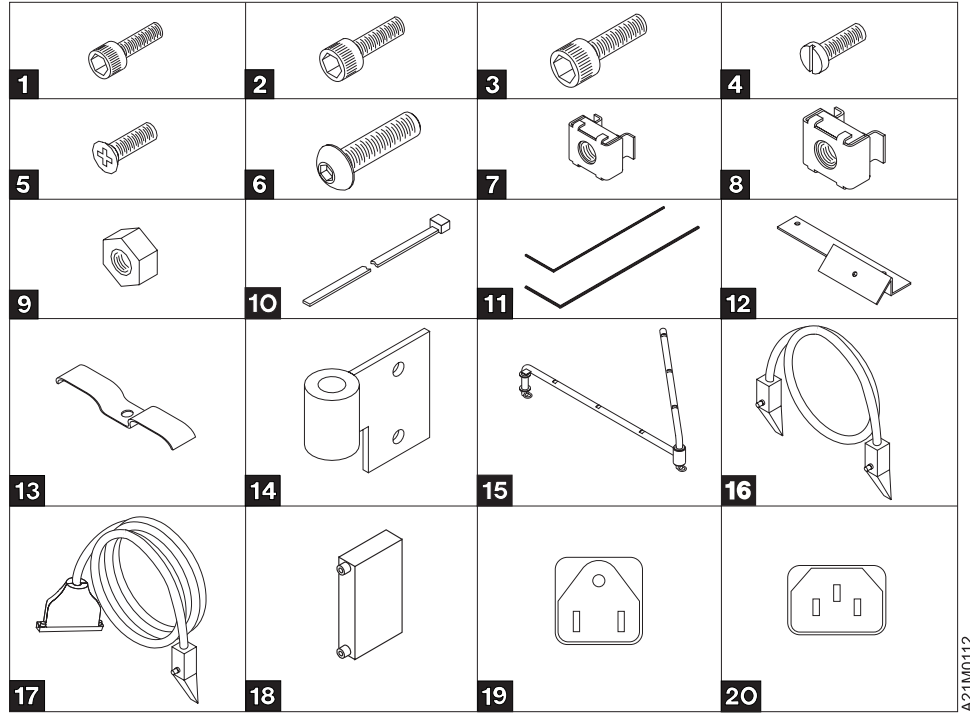
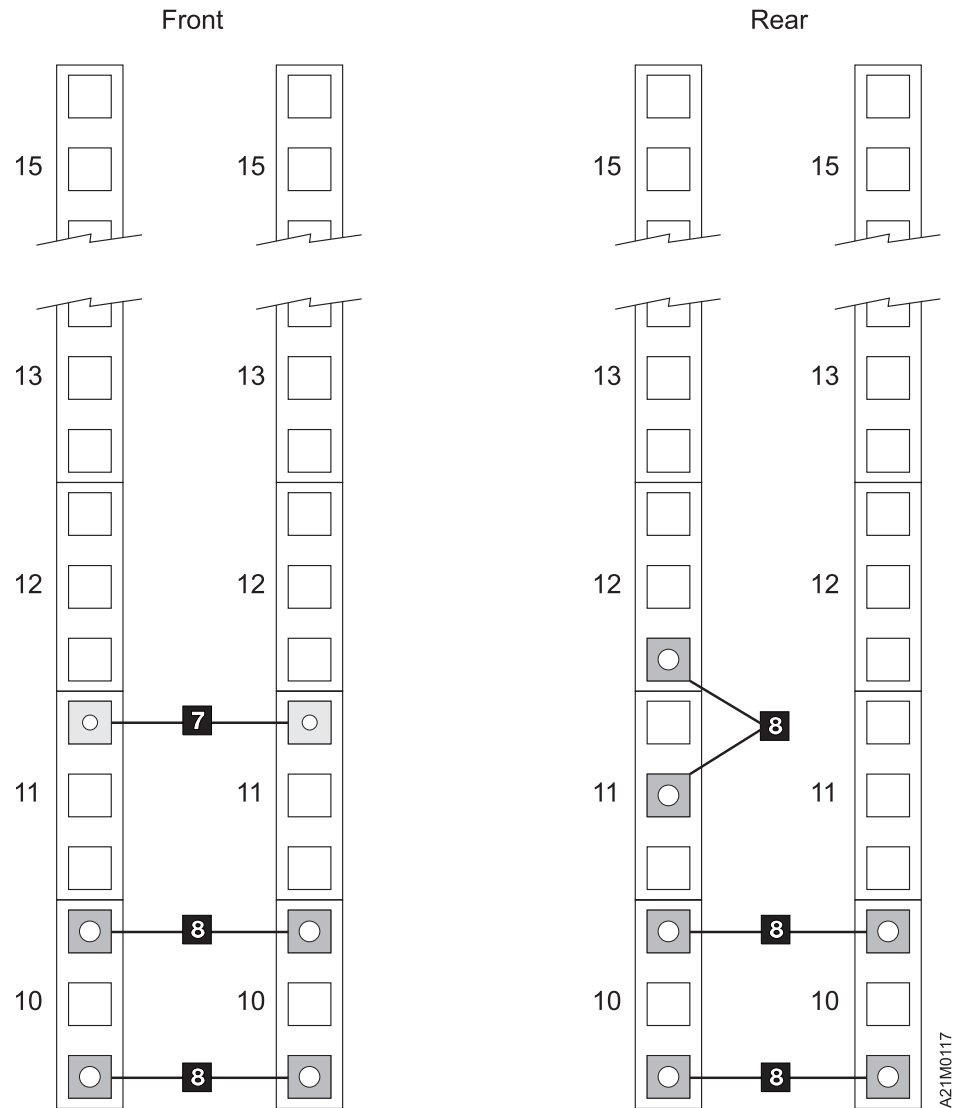

Figure 35. 3570 Drive Models B21 and B22 Rack-Mounted Hardware Ship Group Parts and Tool Diagram
Figure 36. EIA Specification
- \_\_\_ Step 1. Use Table 18, Figure 35 on page 71, and Table 19 on page 71 to inventory and identify the components in your 3570 shipment. Reference these lists to ensure you have all the necessary parts before you begin your installation, they are helpful references during the actual build phase of your 3570 library. (In the following installation pictures, block numbers **1** through **20** represent items in your hardware ship group. All other block numbers are referenced for description only.)
- a. When you are installing either Model B21 or Model B22 in a rack, you are instructed to locate components by Electronic Industry Association (EIA) rack unit and hole location. An EIA unit is composed of three holes. (See Figure 36 on page 73 for an example.) All hole locations are specified within contiguous EIA rack units, and are square shaped.
- \_\_\_ Step 3. Locate the physical area in the rack where the 3570 is to be installed. See Figure 36 on page 73 as your reference for the captured nut locations. The front view shows the frontal left and right EIA strips as viewed from the rack front. The rear view shows the rear right and left EIA strips as viewed from the back of the rack. Items **7** and **8** refer back to the list of items in Figure 35 on page 71.
- \_\_\_ Step 1. To prepare for this task, and all successive tasks, refer to the parts shown in Figure 35 on page 71. The tools you will be using to install the 3570 include: a flat blade screwdriver, a number two Phillips screwdriver and an adjustable wrench. Two hex wrenches are included in the machine package.
- \_\_\_ Step 4. **Read the following before doing steps 5a, 5b , 5c, and 5d.** These caged nuts must be pressed into the square hole [using a flat blade screw driver]. Once they are seated, they will maintain their position. Next, using the Allen wrench **11** supplied, insert the socket button head screws **6** through the EIA strip and into the caged nuts **8** . Leave the screws loose enough to insert the slide mounting brackets **32** between the screw head and the EIA strip **31** . See Figure 36 on page 73 for referencing captured nut installations.